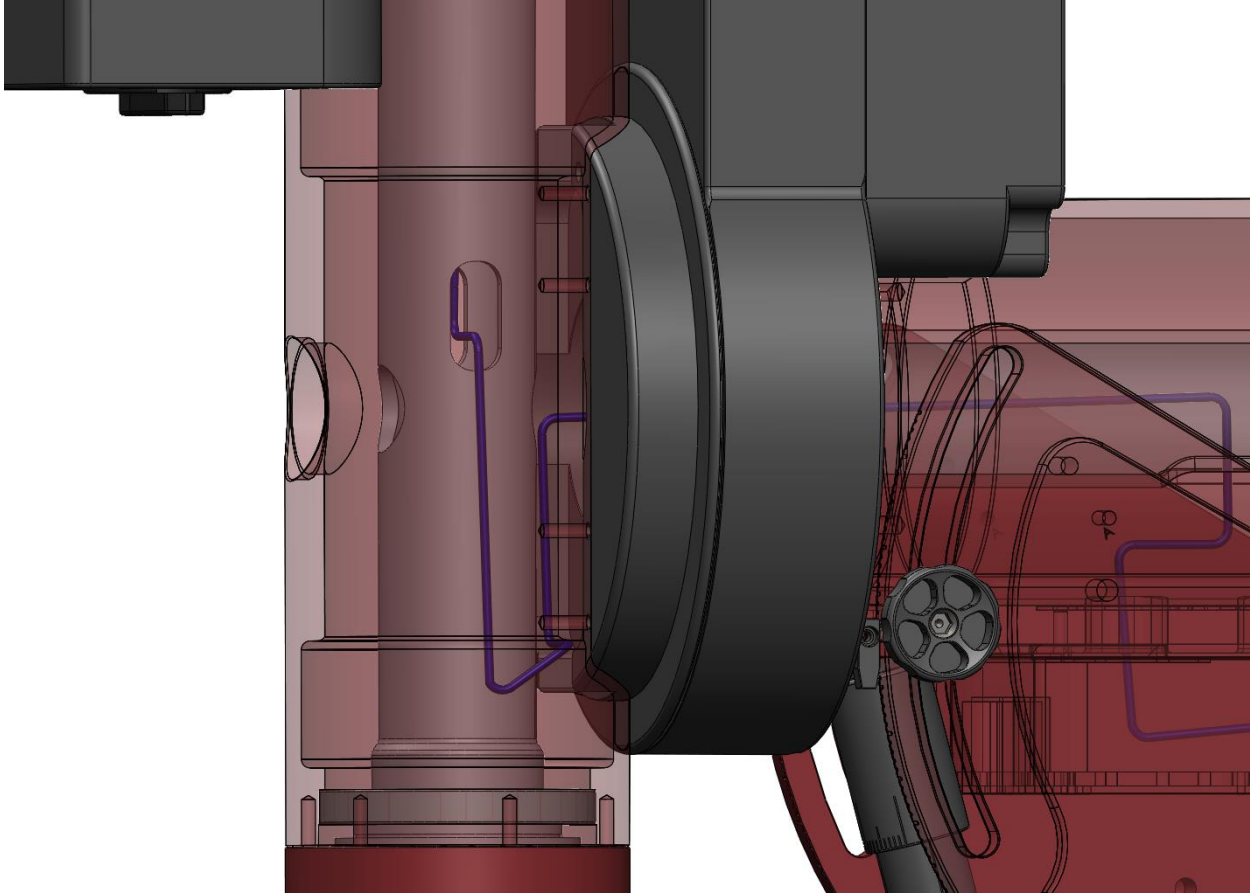

Figure 8: Close up view showing the proper routing of the through the Paramount MX and Paramount MX+ declination axis.
10. Once the cable has been passed all the way through the mount, make an 8-inch loop in the cable and carefully tuck this loop inside the outer shaft of the declination assembly to allow the declination axis to rotate completely without any interference from the cable itself (see Figure 8). Rotating the declination axis from hard stop to hard stop more or less does the work for you, but allowing additional slack in the cable is recommended.
- Once the cable has been passed all the way through the mount, make an 8-inch loop in the cable and carefully tuck this loop inside the outer shaft of the declination assembly to allow the declination axis to rotate completely without any interference from the cable itself (see Figure 8). Rotating the declination axis from hard stop to hard stop more or less does the work for you, but allowing additional slack in the cable is recommended.